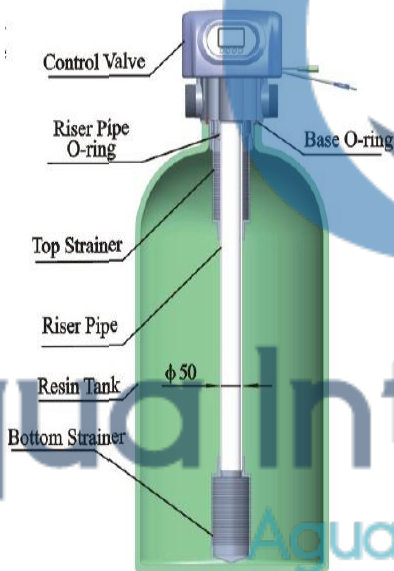

Figure 1-1
⑦ One place is recommended to install the system which cause the minimum loss in case of water leaking.
① Install control valve
- a. As the Figure 1-1 shows, select the riser pipe with 50 mm OD, glue the riser pipe to the bottom strainer and put it into the mineral tank, cut off the exceeding tube out of tank top opening. Plug the riser tube in case of mineral entering.